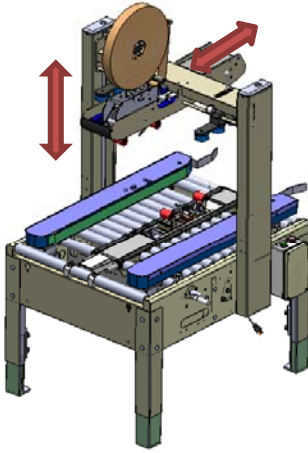

Figure-24
- a. Raise the upper head as shown in **Figure-24**